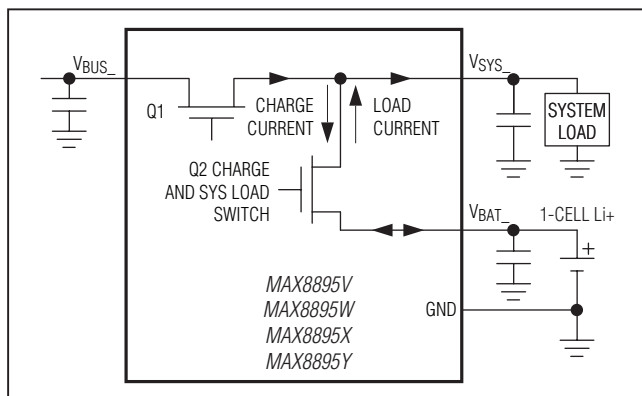

Figure 19. Smart Power Selector Block Diagram
The Smart Power Selector seamlessly distributes power between the external VBUS_ input, the battery (VBAT_), and the system load (VSY_). See Figure 19. The Smart Power Selector basic functions are:
An internal 55mΩ (typ) MOSFET connects VSY_ to VBAT_ (Q2, Figure 19) when no voltage source is available at VBUS_ and VBAT_ is above the battery UVLO threshold. When an external source is detected at VBUS_, this switch controls the charging of VBAT_ and VSY_ is powered from the valid input source through the input current limiter.
- **Input Voltage Limiting:** If the VBUS_ input voltage is above the overvoltage threshold (VBUS_OVP), the MAX8895_ enters overvoltage lockout (OVL). OVL protects the MAX8895_ and downstream circuitry from high-voltage stress up to 16V at VBUS_. In OVL, VINT_3V3 remains on, the input switch that sees overvoltage (Q1, Figure 19) opens, FLT is pulled low, and UOK, CHG, DET_DONE, and PREQ become high-impedance. In OVL, the charger turns off. The VBAT_ - VSY_ switch (Q2, Figure 19) closes, allowing the battery to power VSY_. VBUS_ is also invalid if it is less than VBAT_, or less than the USB undervoltage threshold (VBUS_UVLO_F). With an invalid input voltage, VSY_ connects to BAT_ through a 55mΩ (typ) switch (Q2, Figure 19).